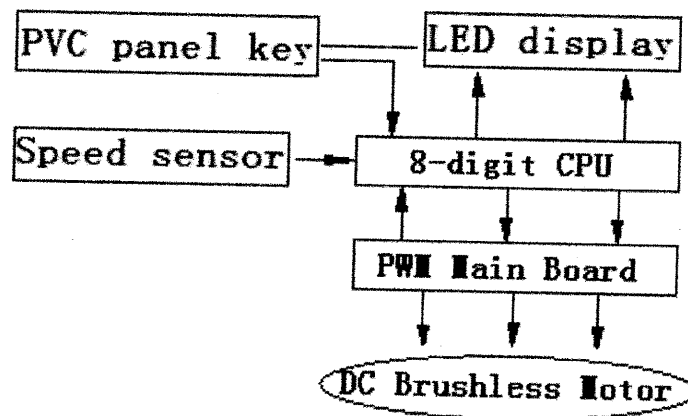

Figure 2 Electric control theory
5.3 Electric control (Figure 2)